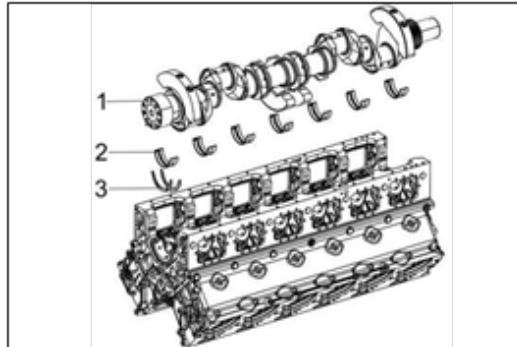

Figure 117.
5. Remove the crankshaft (Figure 117, item 1) from the engine.
6. Remove the bearing inserts (Figure 117, item 2) and thrust plates (Figure 117, item 3).